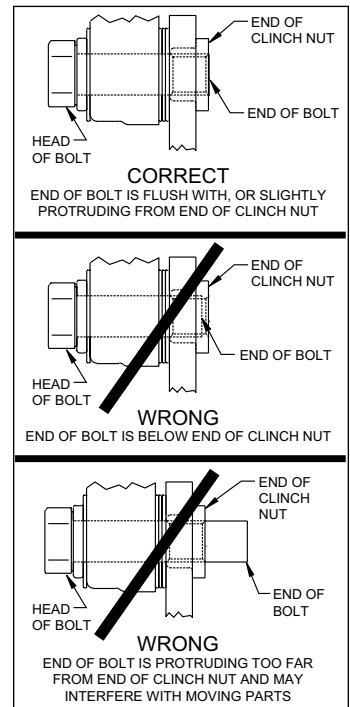

Figure 4. Clinch Nut Engagement Diagram
**Assembly Instructions** (numbers in parenthesis refer to the parts list and Figures 1 and 2 on the preceding pages): **CAUTION:** All mounting bolts must fully engage clinch nuts. Be sure to check that all bolts are either flush or protruding through flanged side of clinch nut after shimming, Figure 4.
- **NOTE:** This kit contains distinct right and left hand calipers that must be mounted in a specific direction, as described below. Initially place two .035" thick shims (25) on each stud (24) between the caliper and the bracket, as shown in Figure 1 and Photo 10. Mount the caliper (21) onto the bracket (17) using lock nuts (22) and washers (23), Figure 1. Ensure that the caliper is mounted so that the largest pistons are at the rotor exit end of the caliper, in relation to the direction of rotor rotation. Temporarily tighten the lock nuts and view the rotor through the top opening of the caliper. The rotor should be centered in the caliper, Photo 11. If not, adjust by adding or subtracting shims (20) between the caliper bracket and the spindle bracket. Always use the same amount of shims on each of the two mounting bolts. **NOTE:** The end of each bolt must be flush with or slightly protruding from the head of the clinch nut, as shown in Figure 4. If necessary place spare shims between washer (19) and caliper mounting bracket (17) to achieve the proper clinch nut engagement. Once the caliper alignment and clinch nut engagement are correct, remove the bolts (18) one at a time, apply red *Loctite*® 271 to the threads, and torque to 60 ft-lb.